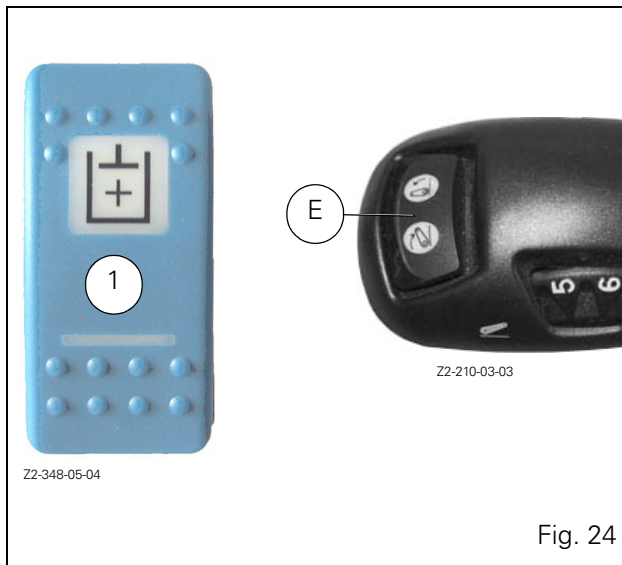

Fig. 24
Coupling is carried out using a button located in the cab on the right-hand console (1) (Fig. 24).
2. Unlock the linkage with the Lift/Lower switch (E) (Fig. 24).
2. To use the linkage, unlock it using the Lift/Lower switch (E) (Fig. 24). The indicator light (I) goes out.